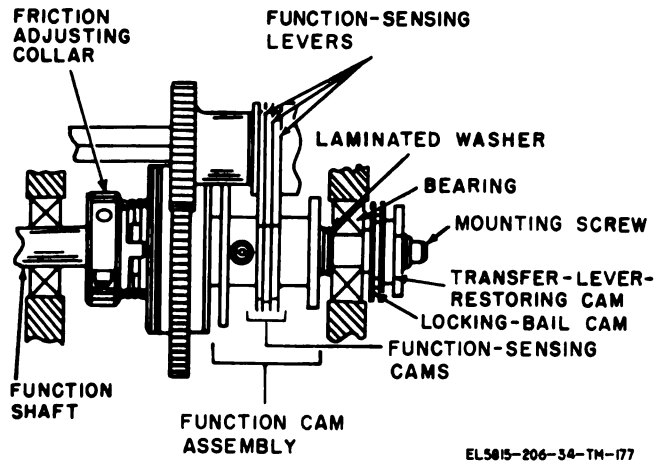

Figure 3-105. Function-cam assembly alignment (TT-4B/TG and TT-698A/TG ).
(fig. 3-105)
b. *Adjustment.* Remove the friction-adjusting collar (fig. 3-105). Loosen the setscrews in the drive collar, and position the drive collar to meet the requirement in a above. Tighten the setscrews and recheck the clearance. Replace the friction-adjusting collar and make the square-shaft stop-arm torque adjustment (para 3-210).